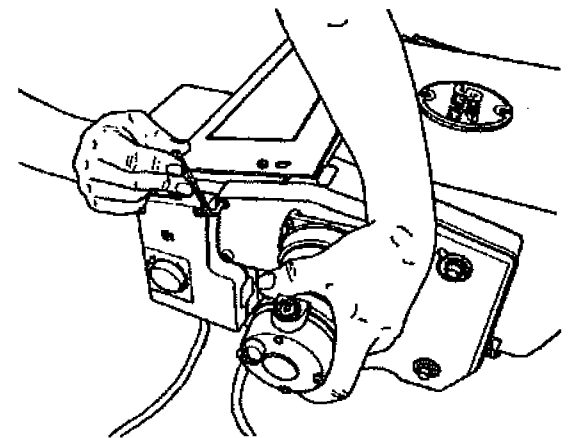

Fig. 23
30. Use a 3/16" Allen wrench to securely tighten all four screws, as shown in Fig. 23.